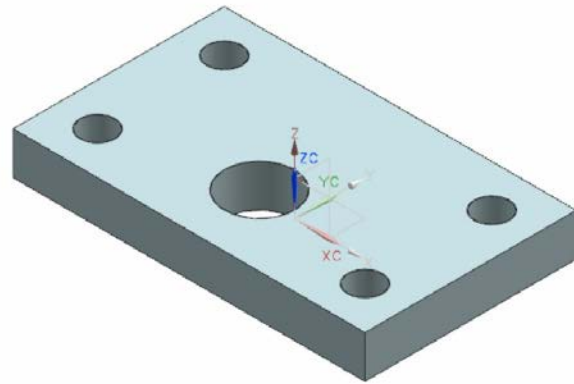

Figure 9-75 The base feature created
7. Extrude the sketch upto 30 mm in the upward direction; the Bottom Plate is created, as shown in Figure 9-75.